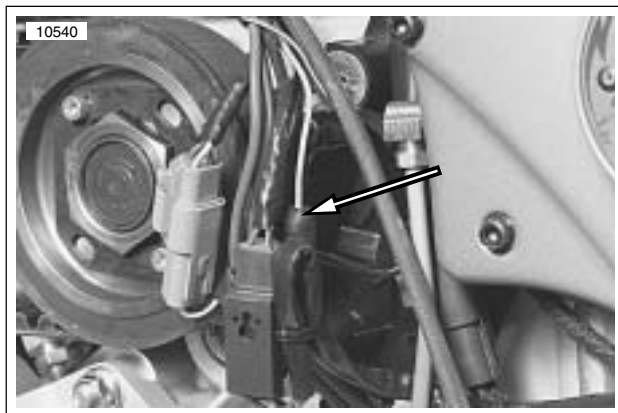

Figure 7-87. Neutral Switch Connector [131]
5. See Figure 7-87. Connect neutral switch connector.